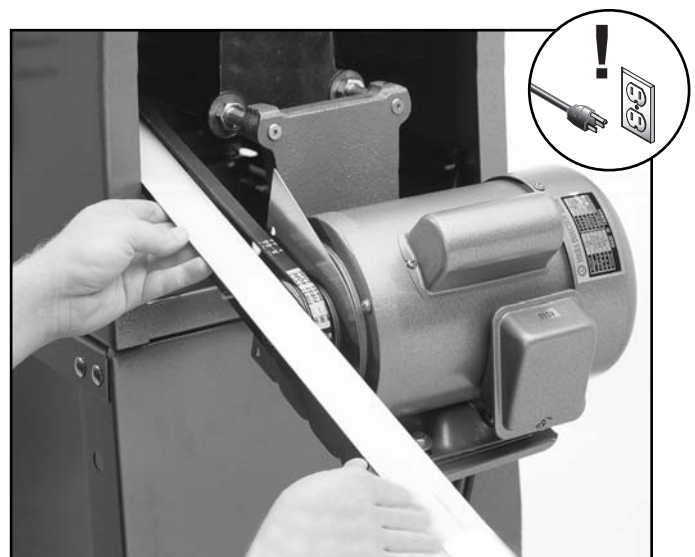

Figure 21. Checking V-belt alignment.
12. Place a straightedge across the arbor pulley and the motor pulley. The straightedge should run across both pulleys evenly as shown in **Figure 21**.